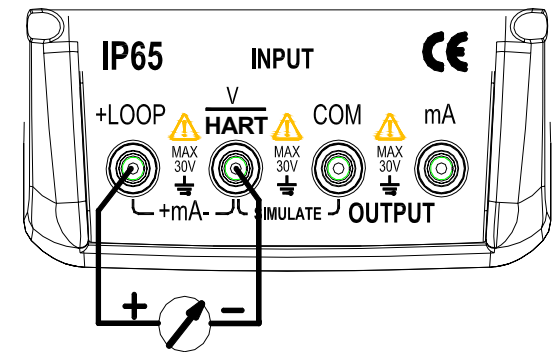

Figure 5-1
1. Insert one end of the test leads to the + mA – output jack (OUTPUT) of the Meter and connect the other end with the input of the user’s Meter as shown in Figure 5-1:
1. Connect to the Meter as shown in Figure 5-1;
1. Connect to the meter as shown in Figure 5-1;
1. Connect as shown in Figure 5-1;